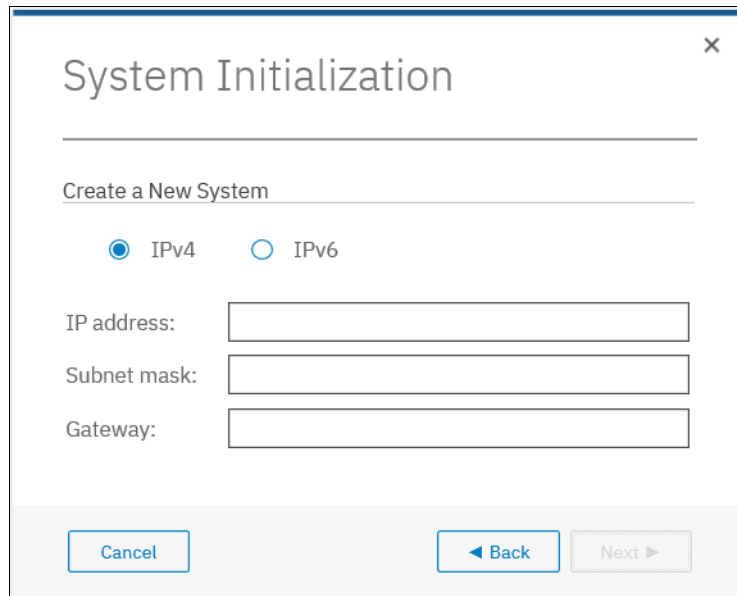

Figure 3-7 System Initialization: Management IP
5. Enter the management IP address information for the new system, as shown in Figure 3-7. Set the IP address, network mask, and gateway.